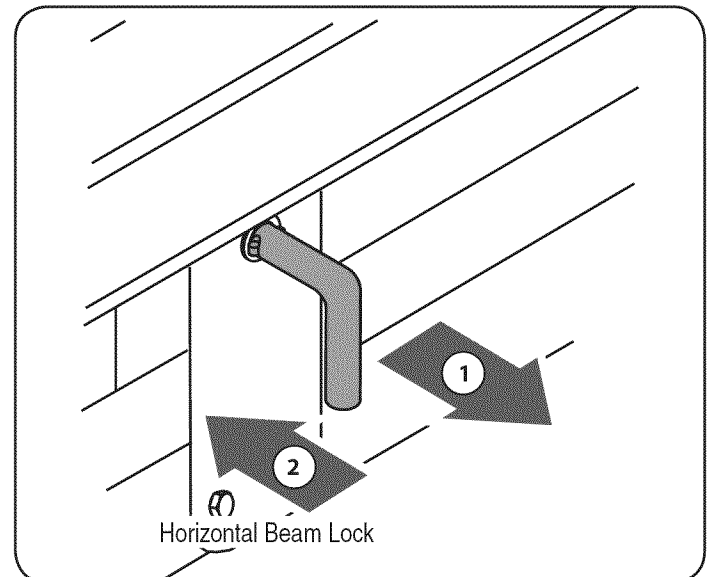

Figure 14
1. Pull the vertical beam lock out and rotate it down. See Figure 14. Pivot the beam to the horizontal position. The beam will lock automatically in the horizontal position.